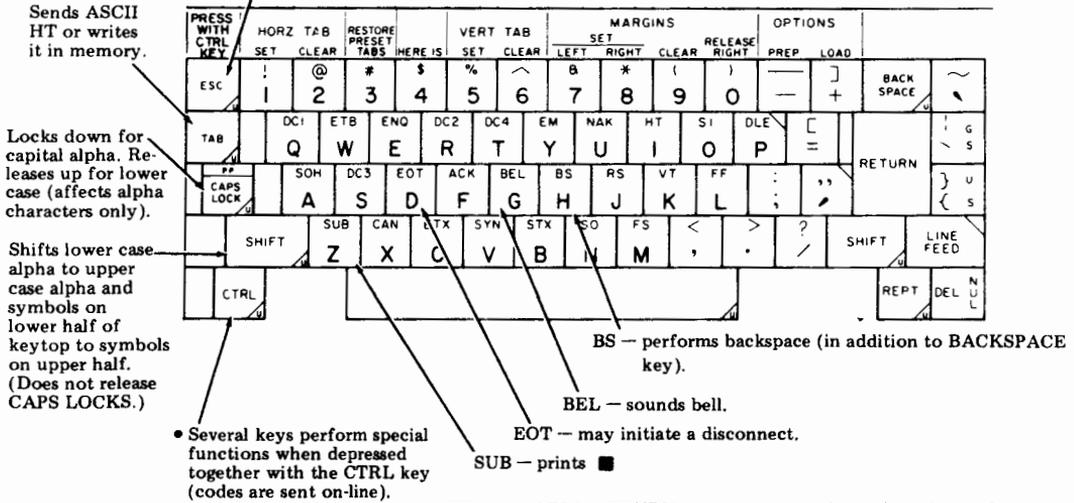

Fig. 4—Basic Keyboard Layout
3.03 The basic keyboard layout is shown in Fig. 4 along with brief descriptions on the keyboard printer operation of several special keys.